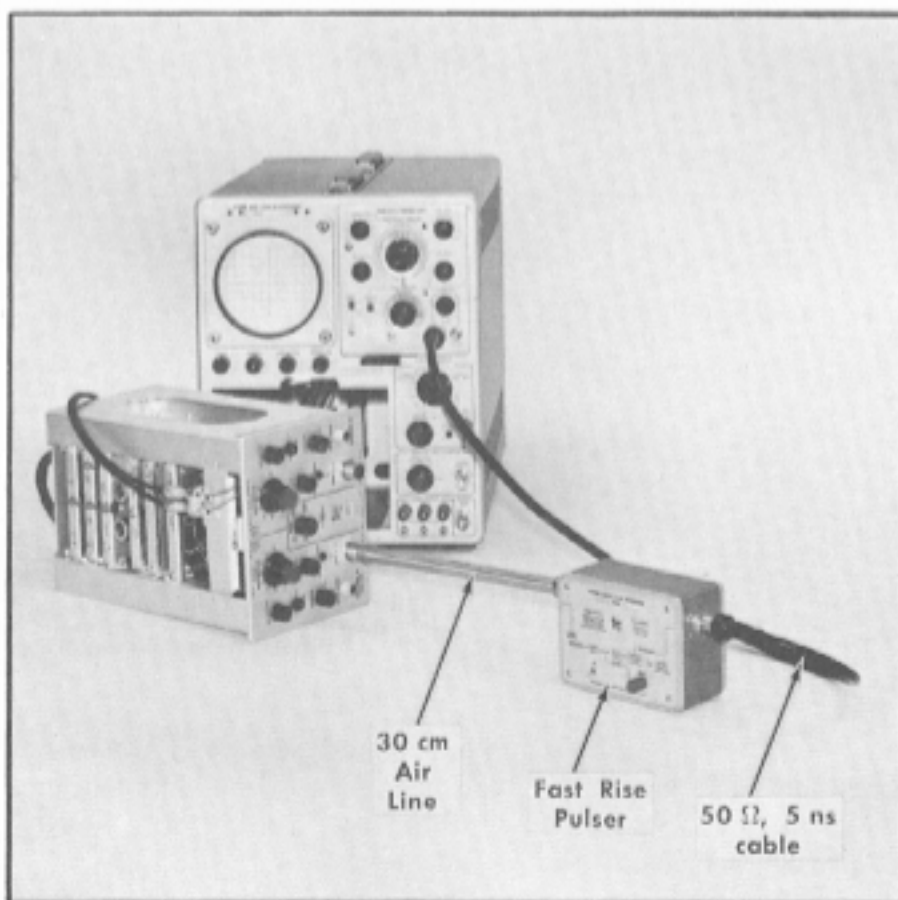

Fig. 6-22. Test equipment setup for step 9.
- a. Test equipment setup is shown in Fig. 6-22.